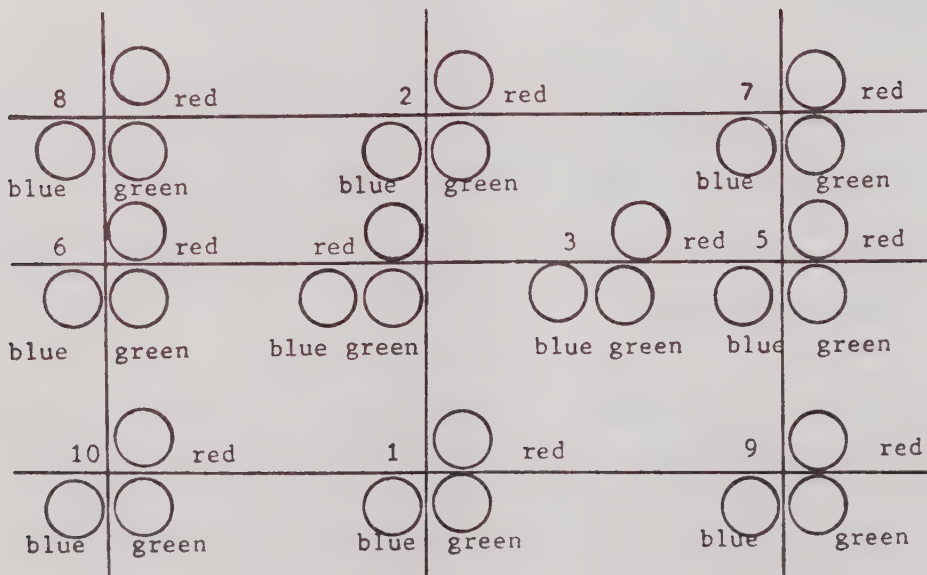

Figure 2-1. Convergence Magnets and Adjustments
- Set the input signal from the crosshatch generator to the crosshatch pattern. Figure 2-1 shows the sequence of adjustments, the location of three gain adjustments for red, green, and blue guns, and (by position on the figure) the area of the CRT affected by the controls. Adjust only those areas that require convergence, beginning at the lowest numbered area.